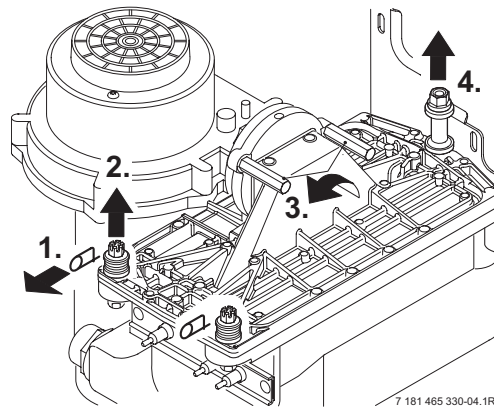

Fig. 57
- Remove the clips (1) and unscrew the two bolts (2). Refer to fig. 57.
- Unscrew and remove the two hexagon screws securing the fan (3).
- Slacken fully the rear securing bolt (4).